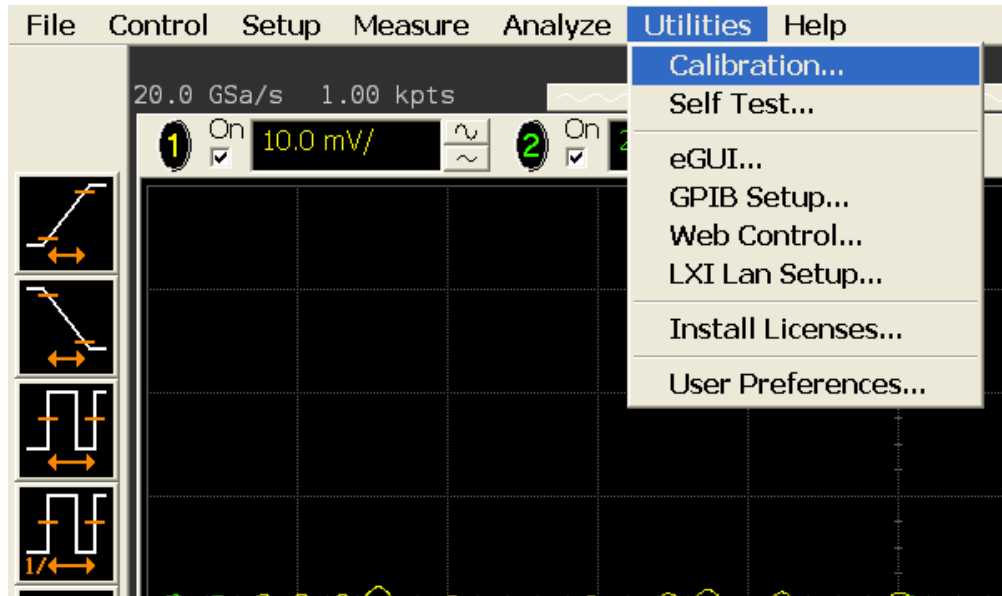

Figure 81 Accessing the Calibration Menu.
- 3 Referring to Figure 81 below, perform the following steps: